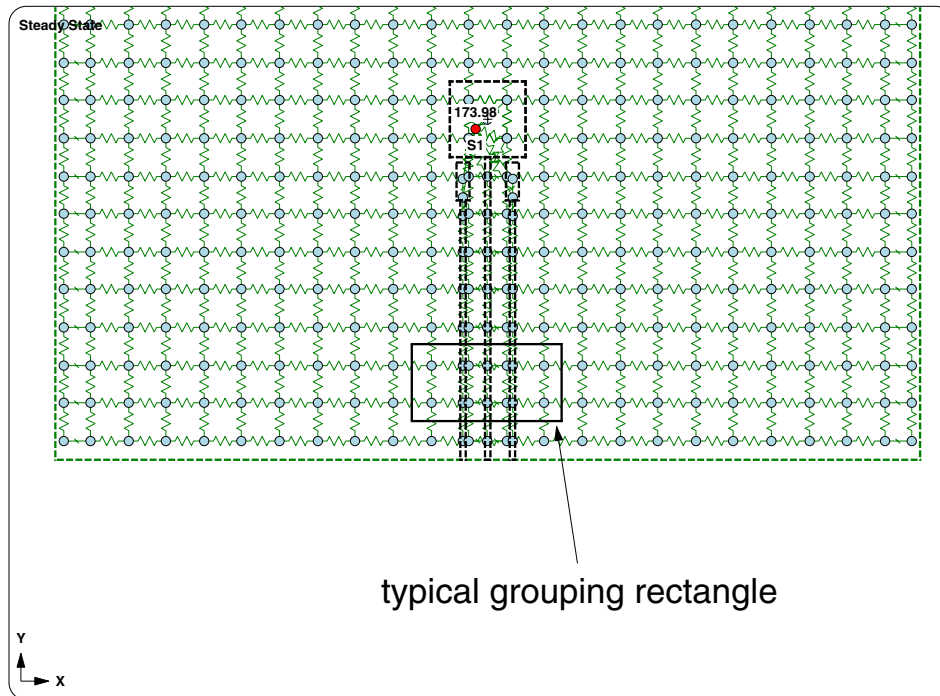

Figure 8: Grouping rectangle for modifying trace length
You will reach a grouping menu. Rather than clicking on each individual trace, you can define a region to quickly select all three traces. Figure 8 on the next page shows a typical grouping rectangle. The grouping rectangle does not need to be identical to Figure 8, just reasonably close. You will be digitizing two times to define the rectangle. However, please note that with Sauna digitize means "click and release". It's not hold the mouse button down and drag. With that in mind, finish changing the trace length:
**Select Regn → digitize lower-left corner of grouping rectangle in Figure 8